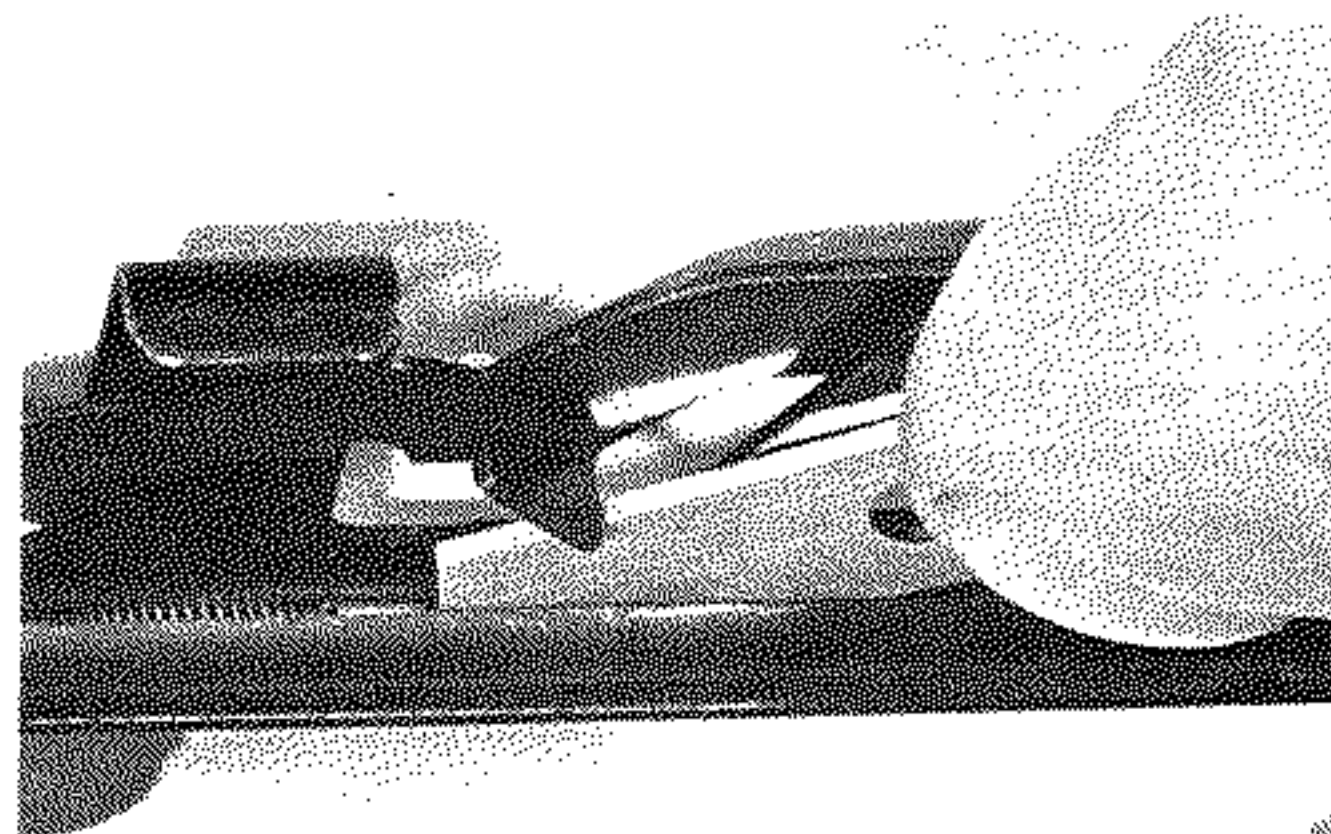
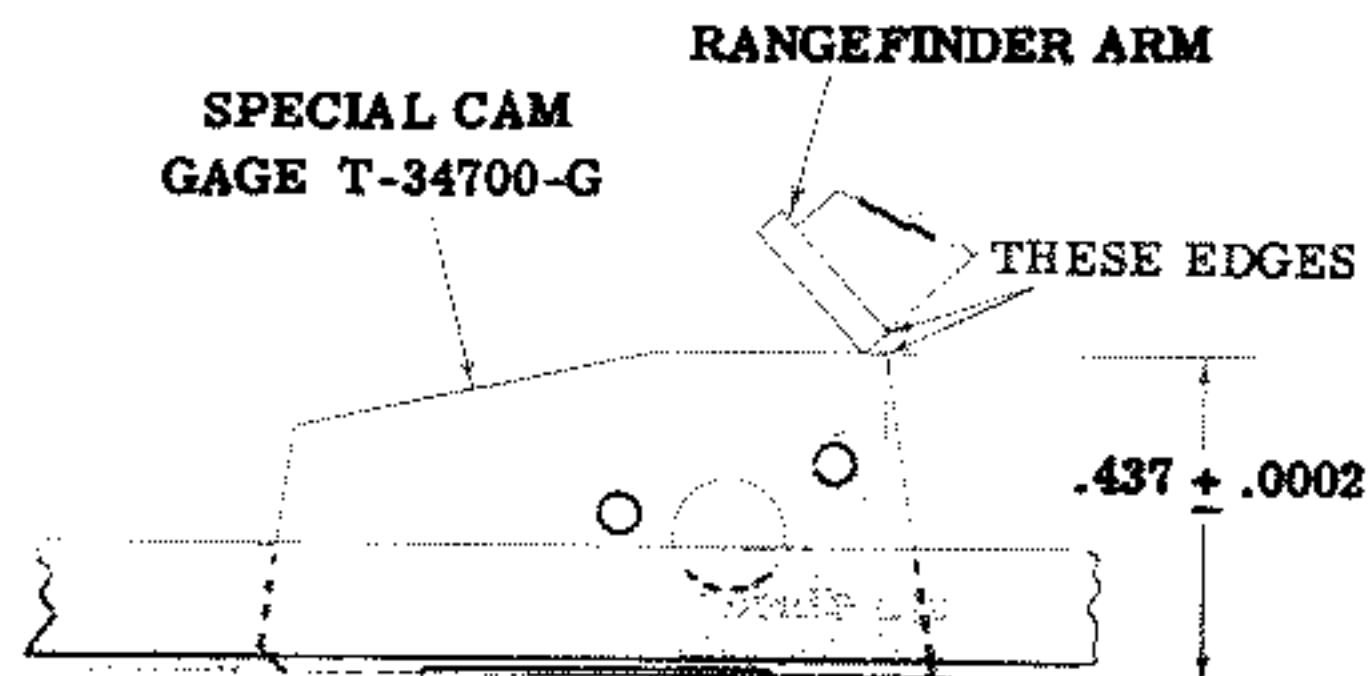

Figure 6. CAM INSERTING
Figure 7. MASTER CAM - PRE-INFINITY SETTING
b. Assemble the master cam gage in the cam slot (figure 6). The bed yoke must be back as far as possible. Assemble the yoke bracket and slide to a position that presses on the lower tube plunger to cause the master cam to line up with the edge of the rangefinder arm (figure 7).
e. Assemble the required lens cam (figure 6) and focus rangefinder at infinity and lock bed. Assemble rangefinder housing and secure with its mounting screws under normal tension. Check the image at infinity to be sure that it has not shifted due to assembly of the housing. Unlock the bed yoke and move forward to set the scales at the nearest marked distance. Check the rangefinder image at this distance measured from the film plane to the target.